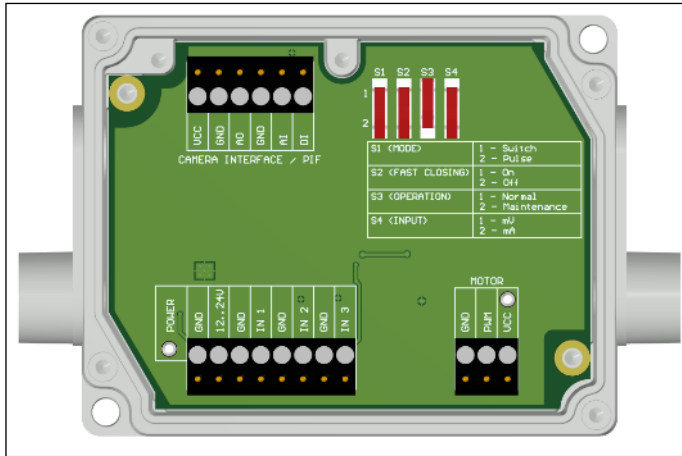

Figure 17: Control box of shutter, dimensions (see **Figure 9**)
- When using more than one shutter and the opening / closing of the shutter should be simultaneously, the switch S4 on one control box must be set to mA and the others to mV (see **Figure 17**).